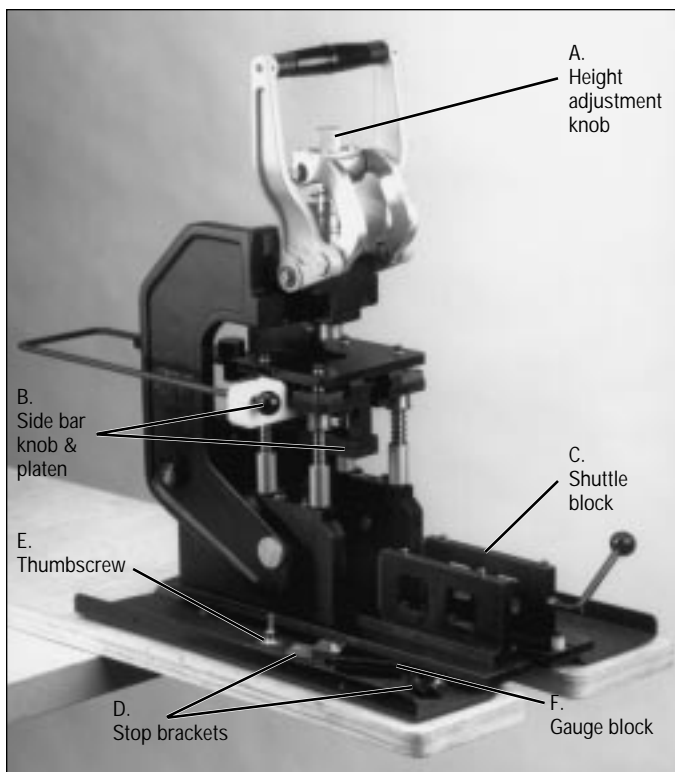

Figure 4. 10960-2000 Hand Press
2. Select the 10960-2000 Hand Press and place it in front of the operator so the handle is toward the operator. It is recommended for assembling connectors that the press be positioned in a manner so cable may hang freely below the press when moving the shuttle block (C of Fig. 4).
4. Slide the platen assembly forward using the side bar which has a round black knob (B of Fig. 4) on the operator's left side.
6. Locate cutting unit stop brackets and thumbscrew (D & E of Fig. 4). Depending on size of assembly choose stop bracket accordingly.
10. Locate the shuttle block (C of Fig. 4) and install fixture unit (Fig. 14) on the guide pins. Push the release buttons on the front of the fixture unit to open the grooved plates.
11. Locate the gauge block (F of Fig. 4). Height adjustment can be accomplished by placing the gauge block, narrow side down, in the fixture unit between the two grooved plates. Close plates manually by squeezing them together.
14. Adjust the silver knob at the top of the press (A of Fig. 4) by hand until the platen lightly contacts the gauge block. Lift press handle up and adjust the silver knob approximately another one-half turn tighter. Pull handle down again. It should lightly lock in place when fully depressed. The platen should apply enough pressure on the gauge block and shuttle to prevent them from moving when trying to slide them out.
- Place the fixture unit onto either the fixture block (Fig. 12) or the shuttle block on the press (C of Fig. 4) with the slot on the fixture unit toward the operator and the cable clamp stop adjustment knob at the rear of the unit, away from the operator.